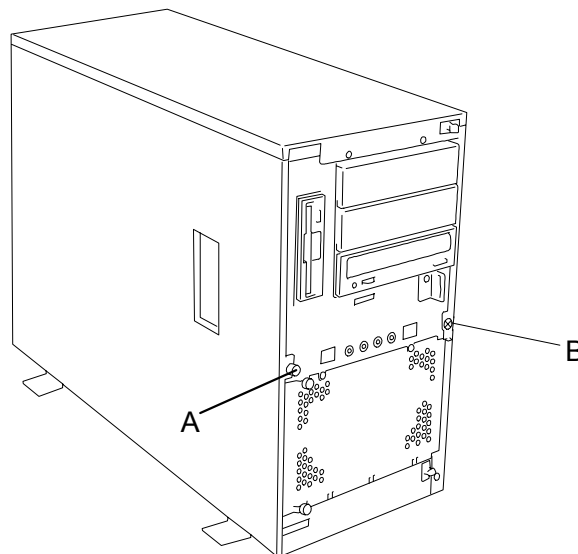

Figure 4-4. Securing a Side Panel
4. Replace the side panel retaining screw (see Figure 4-4).